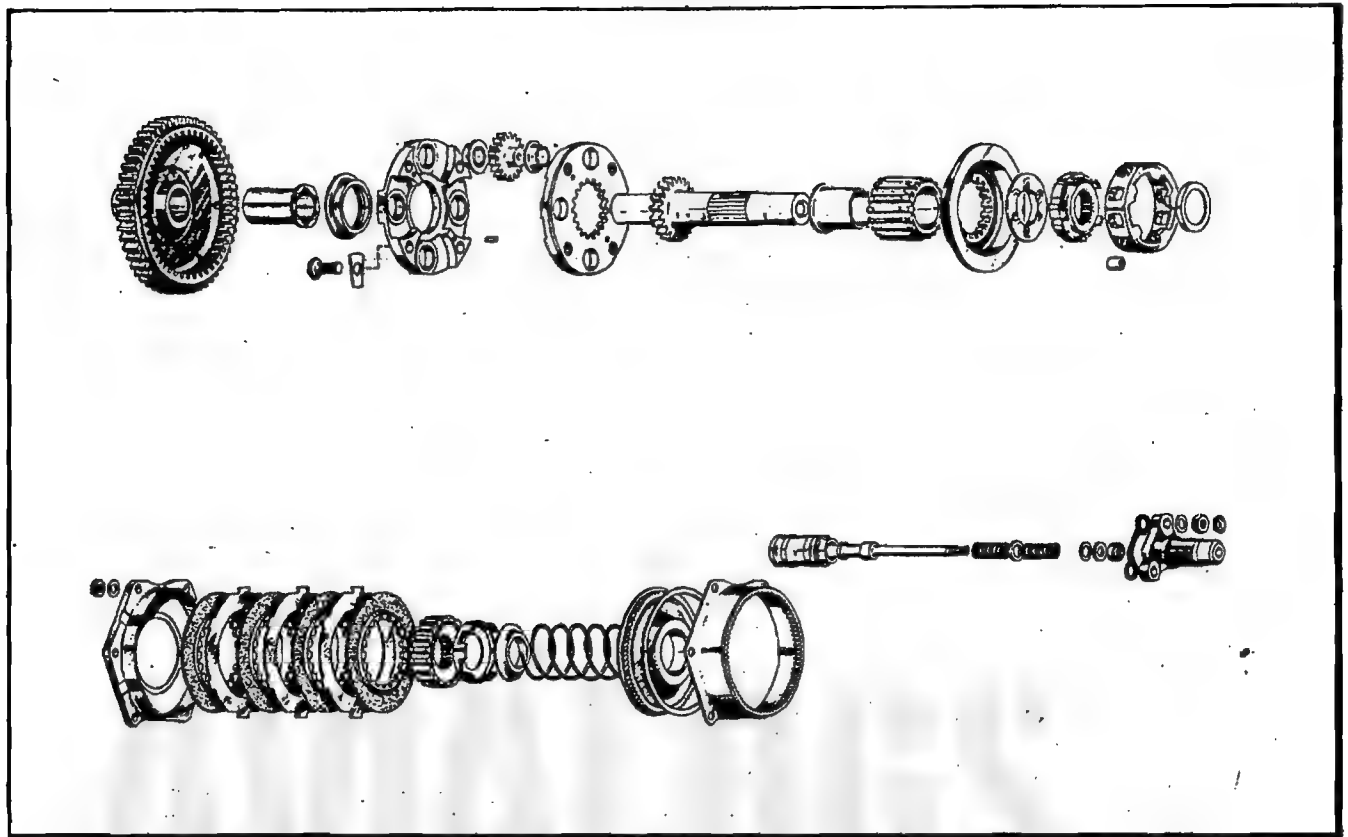

Figure 15—Supercharger Drive, Two-Speed
9. The supercharger consists of an impeller, diffuser plate, and distribution chamber. R-1820-40, -40B, -54, -60, and -87 engines are equipped with two-speed superchargers with roller- or plate-type clutches. See figures 15 and 16. The R-1820-65, -71, -73, and -97 en-